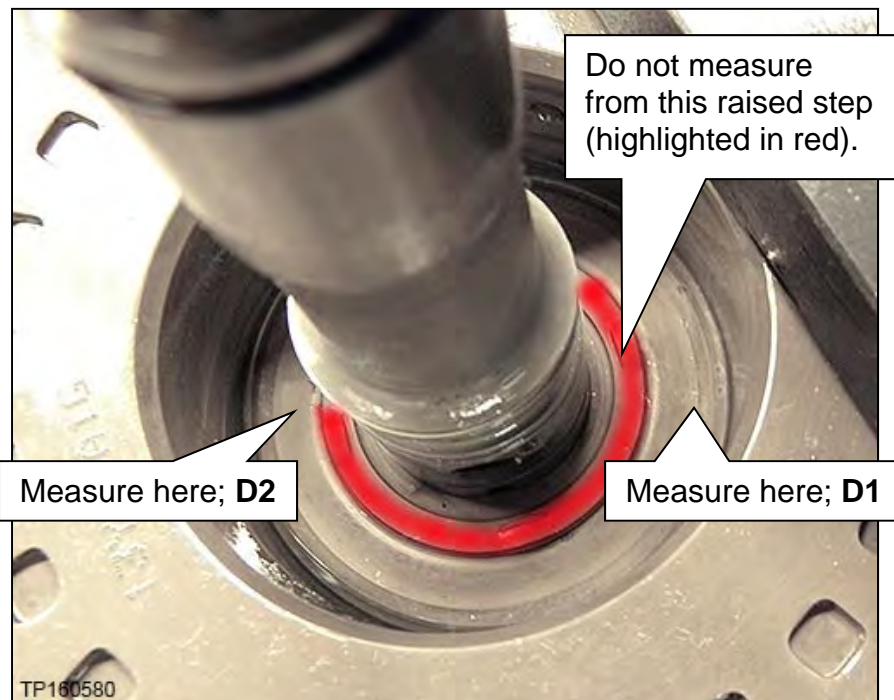

Figure 115
**HINT:** Do not measure from the clutch assembly bore shown in red (Figure 115).